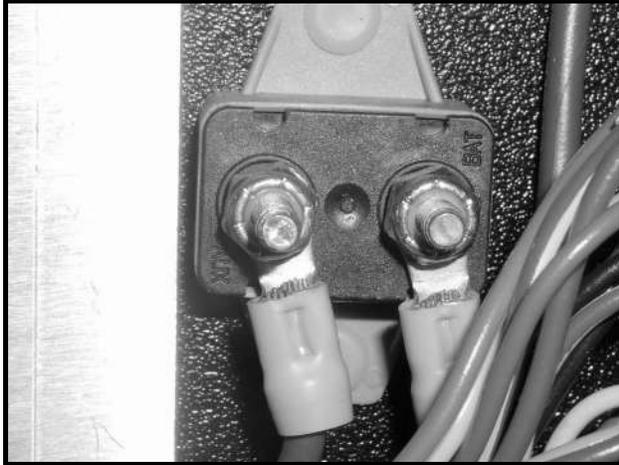

Figure 12b-5 50-Amp Circuit Breaker
4. Remove the locknuts that secure the two 10-gauge wires to the circuit breaker (**Figure 12b-5, Page 12b-4**).
1. Secure the 50-amp fuse to the electrical component mounting plate with the two plastic fasteners (**Figure 12b-5, Page 12b-4**).